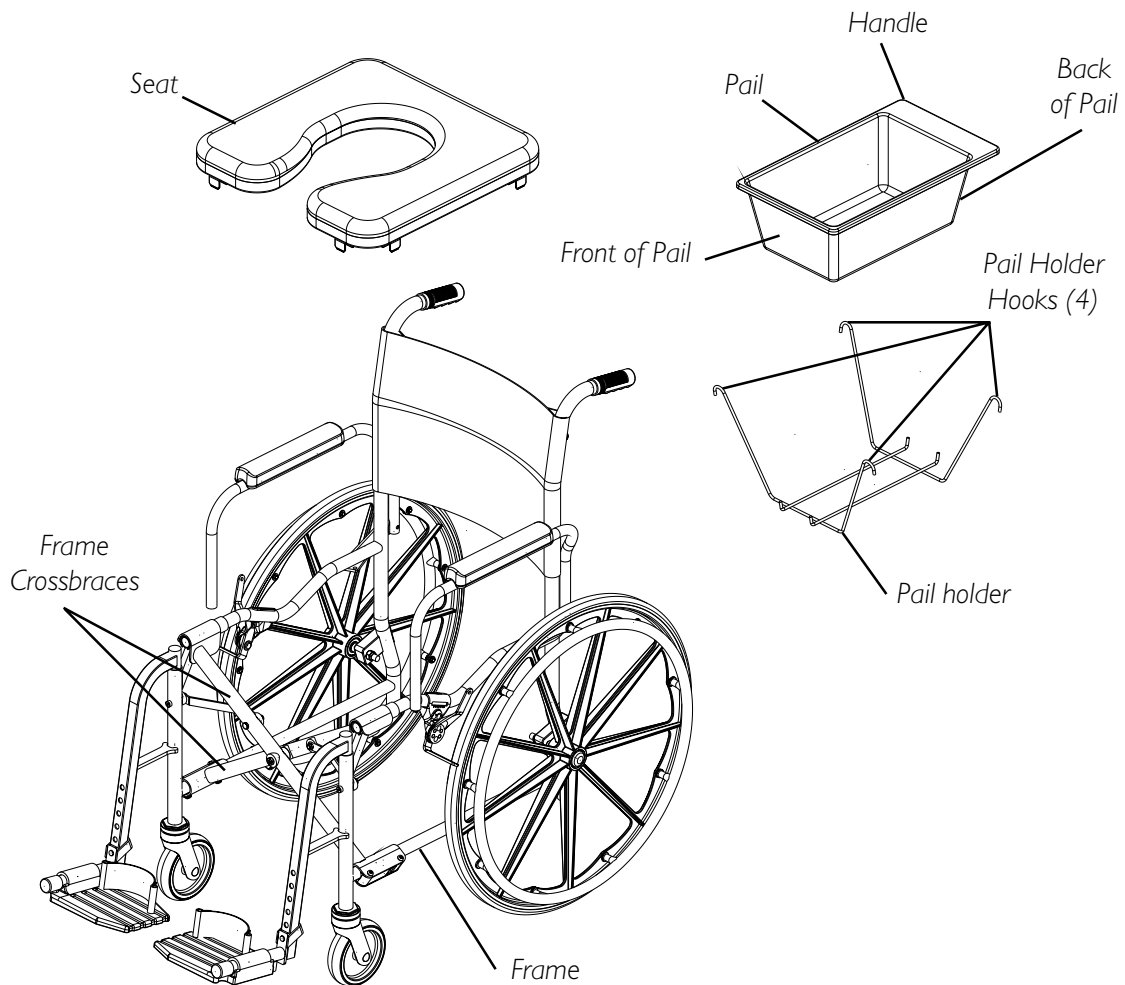

FIGURE 1 - REMOVING/INSTALLING PAIL AND PAIL HOLDER
REMOVING/INSTALLING THE PAIL (FIGURE 1)
4. Remove pail holder from frame tubing by lifting the four pail holder hooks out of the four holes on the tabs of the frame tubing (FIGURE 1).
1. Install pail holder into frame tubing by inserting the four pail holder hooks into the four holes on the tabs of the frame tubing (FIGURE 1).